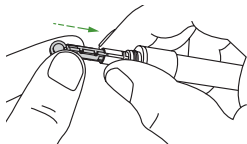

Figure 23
STEP 2: Insert a Sterile Lancet into the Lancing Device. Insert the lancet into the lancet holder and push down firmly until it is fully seated. Do not twist the lancet. See *Figure 23*.